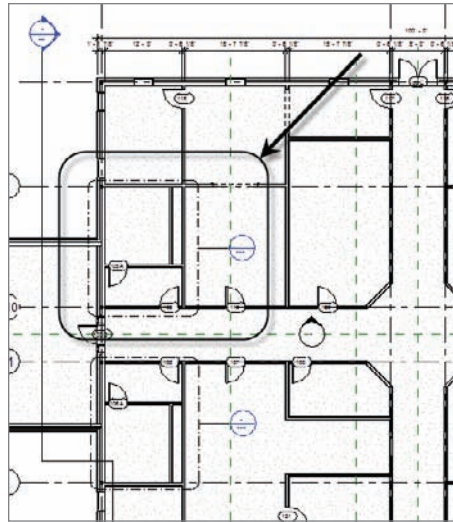

FIGURE 9.38 The lavatory area
2. Zoom in on the lavatory area, as shown in Figure 9.38.